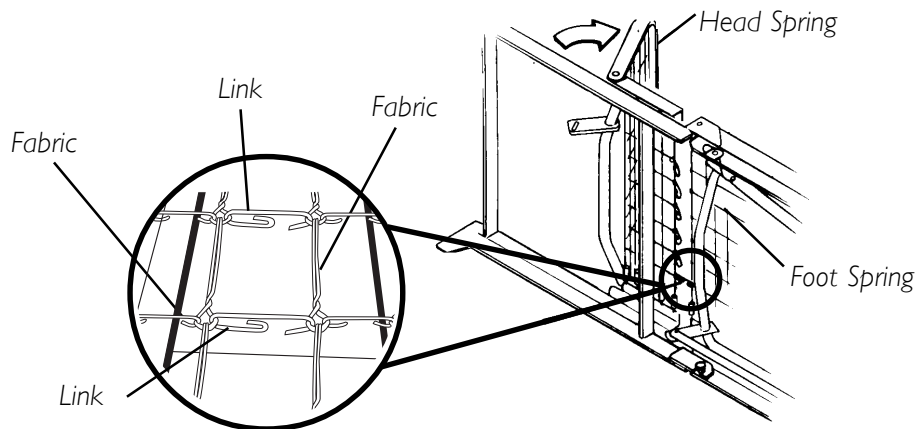

FIGURE 2 - ASSEMBLING FOOT SPRING TO HEAD SPRING
2. Reassemble foot spring to head spring. Refer to **FIGURE 2**.